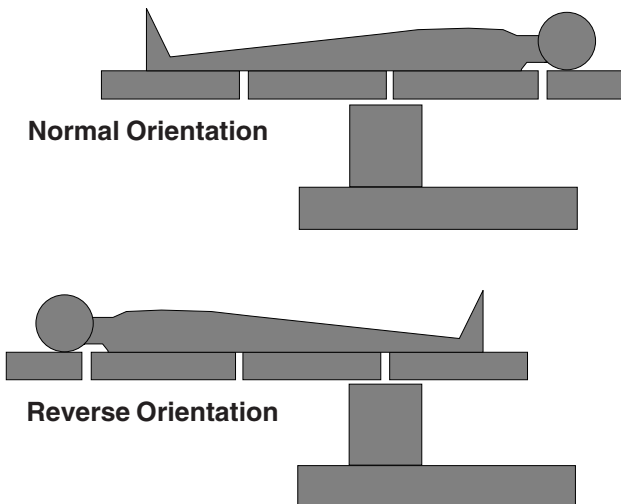

Figure 4-2. Patient Orientation
3. Press **ORIENT PATIENT** Function button in center row of buttons on hand control and **within five seconds** (while LED is still lit), press appropriate Actuate button (**NORMAL** or **REVERSE**) to indicate orientation of patient's head on table (see Figures 4-2 and 4-3).
- ORIENT PATIENT button activated (green LED ON) to indicate patient's position on table (see Figures 4-2 and 4-3).